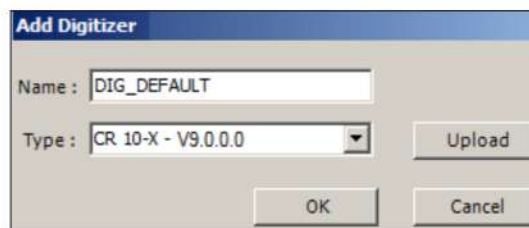

Figure 51
Step 1: In the "Add digitizer" screen (see Figure 51) select: **<upload>**.